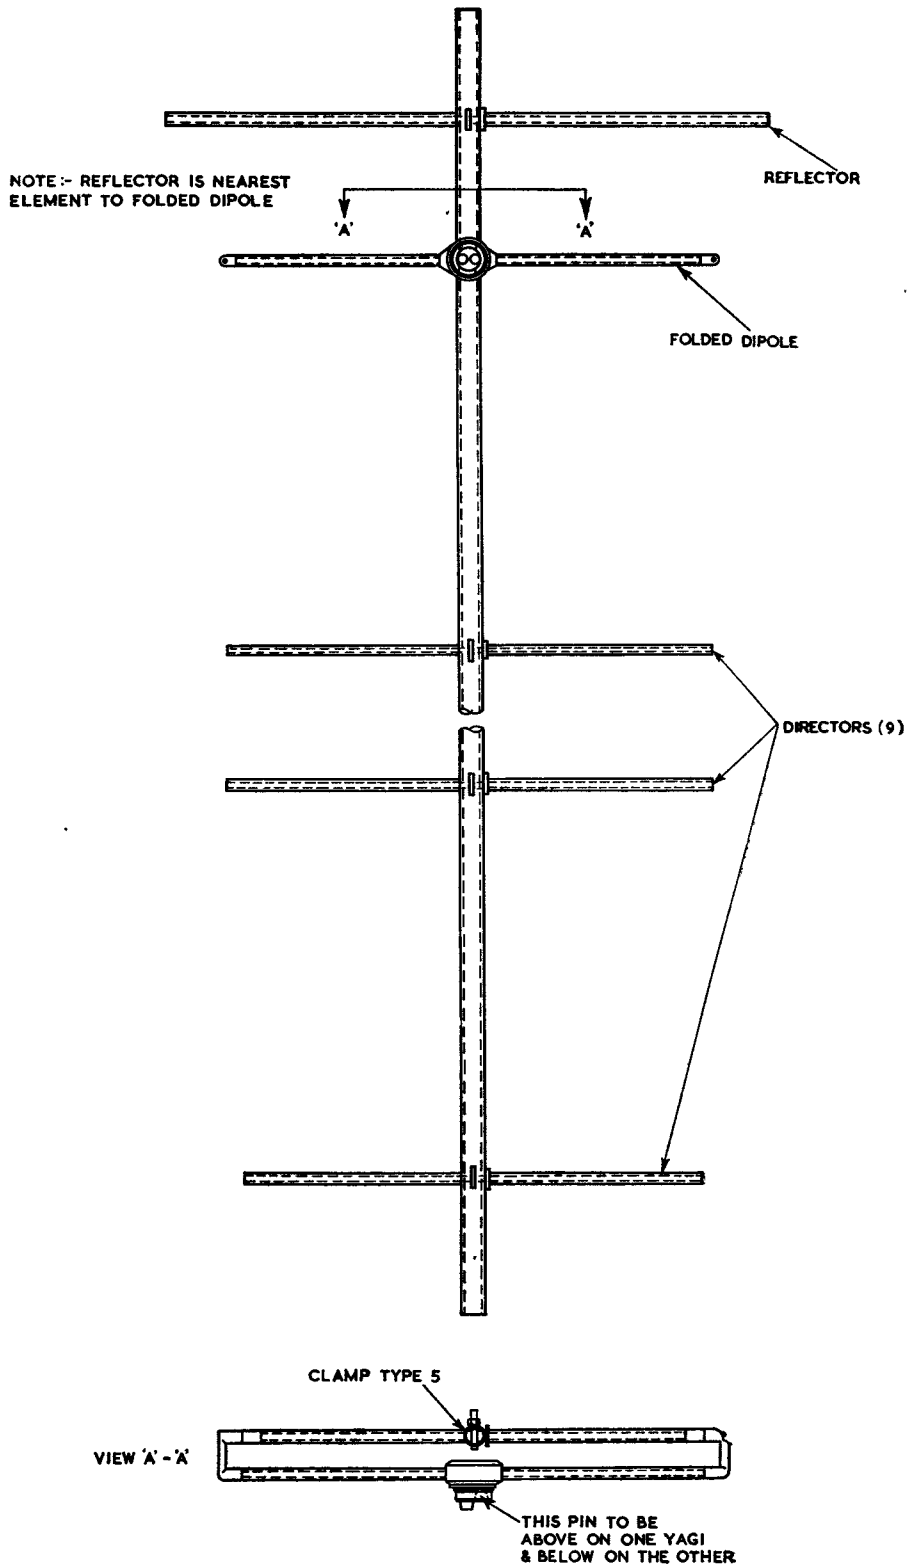

Fig. 35. Aerial array Type 102
**39.** The assembly of the aerials is best done on the ground. First fit the reflector element, which is the longest rod, taking care to fit it at the correct end of the tube. Fig. 35 shows the construction of one aerial; the nine director elements are spaced at equal intervals from the dipole and from each other, but the reflector is much nearer the dipole than is the first director. The rods are fitted with a ring to ensure that they are clamped symmetrically in the tube. Consequently, put the longest part of the rods through the tube first, push the ring hard against the side of the tube, and then secure the rod by tightening the nut on the clamp.
**41.** Fit the completed aerial assemblies as shown in fig. 35 with the polythene plugs of the dipole pointing inwards. The lug on the main tubes should mate with the hole in the clamp plate of the front support tie-beam. Tighten the wing nuts on the clamping blocks.